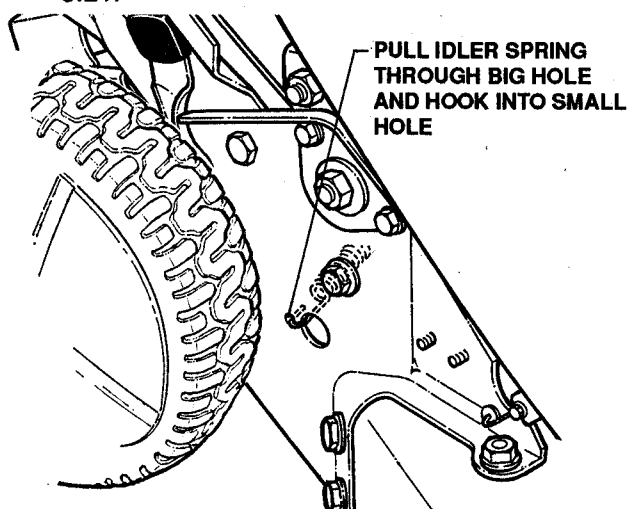

FIGURE 3.21
12. Hook spring end into small hole. See Figure 3.21.